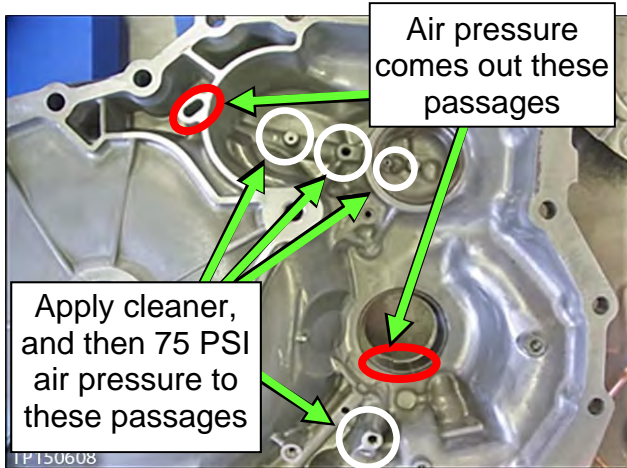
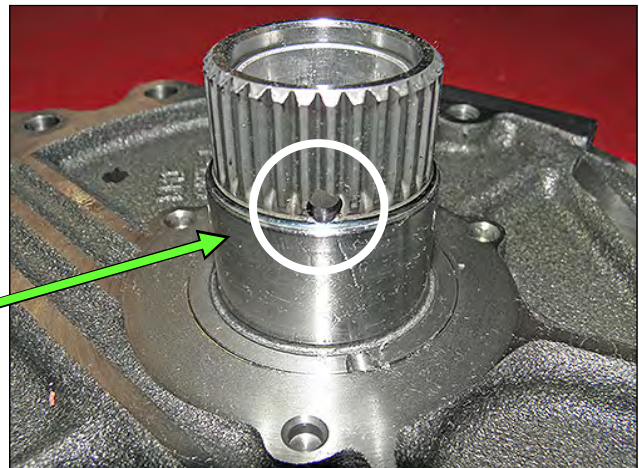

Figure 125
Figure 128
97. Clean the oil passages of the converter housing, lubrication tube and dummy cover with brake cleaner (or equivalent) where shown in Figure 125 through Figure 128 below.